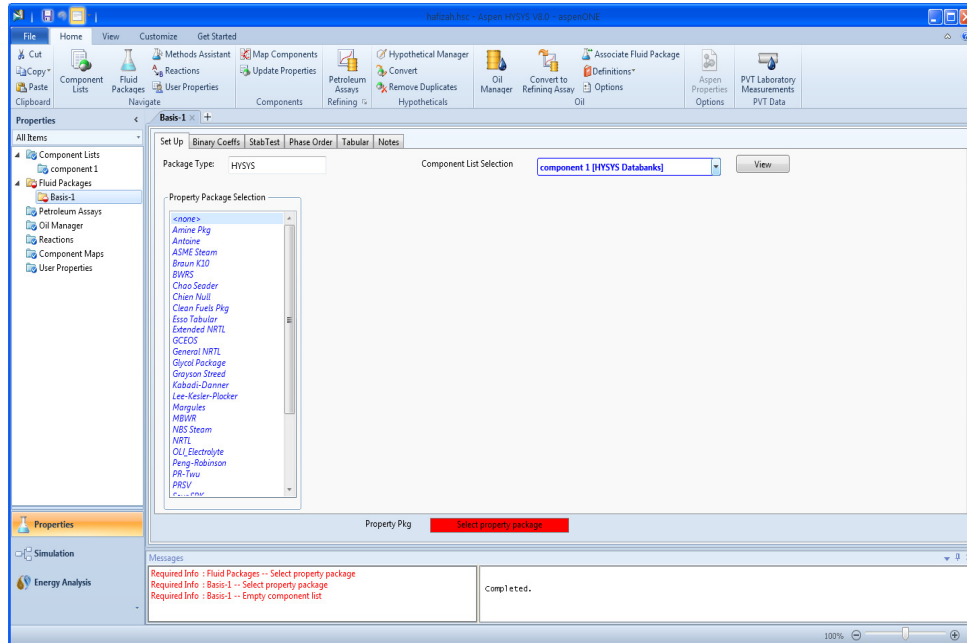

Figure 5: Fluid Package View
4.3 Click the “**Add**” button to create new fluid package as shown in figure 5.